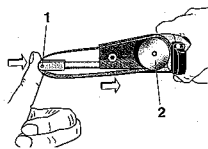

Fig. 4
1. Depress tensioning roller 1 (Fig. 4) axially and remove grinding belt from the drive roller (2).
2. First position new grinding belt around the tensioning roller (1). Then press the tensioning roller backwards and position the belt over the drive roller (2).